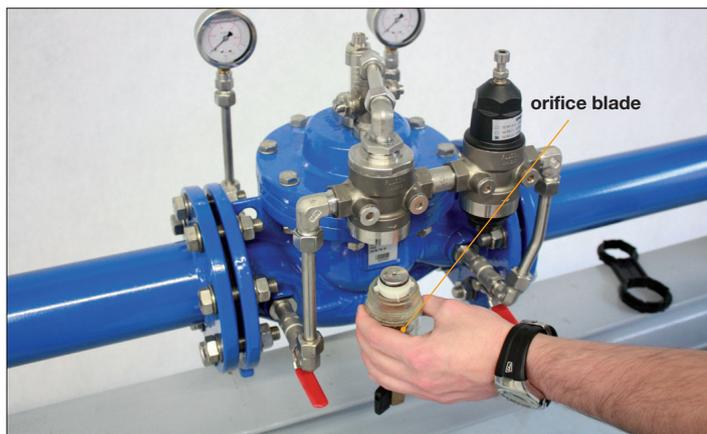

Figure 40: Removal of the filter internal parts
4. Removing the internal parts of the filter (see Figure 40).